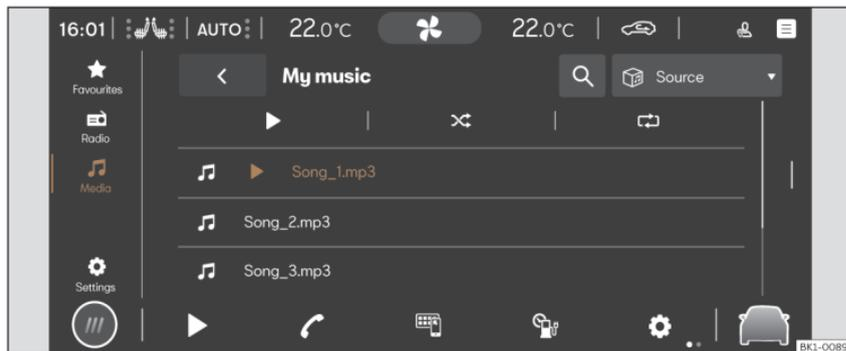

Fig. 130 Schematic representation: Multimedia view
- Press **HOME** > ▶ > 🎵 >>> **Fig. 130**.